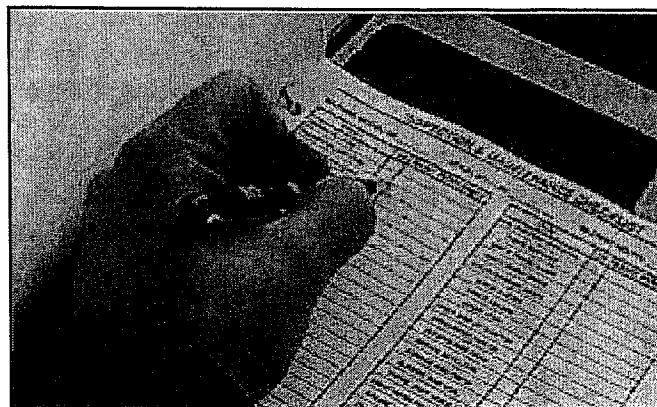

FIGURE 4.1
A. It is recommended by KOBELCO AMERICA, Inc. that an Inspection and Maintenance Schedule be developed and maintained on a regular basis for this machine. Developing and maintaining such a schedule, helps to keep the machine in optimum operating condition. See Figure 4.1.